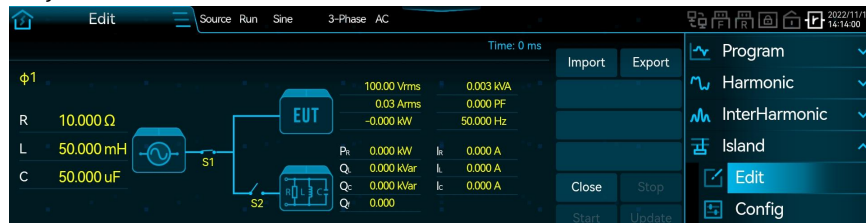

Figure 118 RLC Mode Anti-Islanding Test Interface Diagram 1
- Return to the anti-islanding test function interface, set the corresponding RLC parameters, and press the front panel Output Button to enable the product to output a steady-state voltage. At this time, S1 is closed, the EUT (Equipment Under Test) is connected to the grid, and 'Engage' is highlighted. See Figure 118.